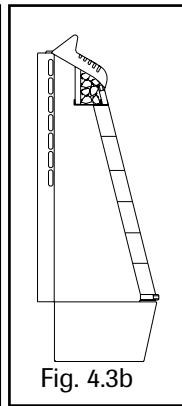

Fig. 4.3b
- Installing soapstone slabs (Fig. 4.3b)